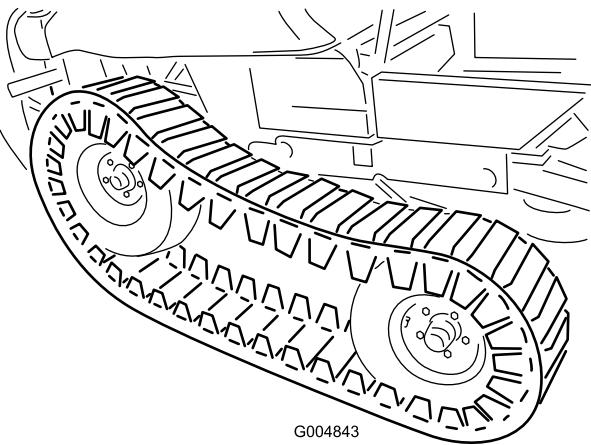

Figure 31
21. Adjust the floor jack to a suitable height to install the front tire. With a helper, lift the front of the track enough to carefully install the front tires (Figure 31).